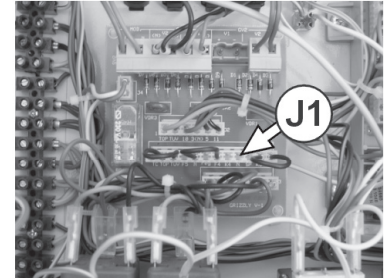

fig. 1
6. Remove the switch connector from the boiler's control board (Fig. 1, Position "J1") and replace it with the connector supplied with the switching kit. Check the connector and make sure that contact has not occurred, e.g. by touching one of the opposite pins.